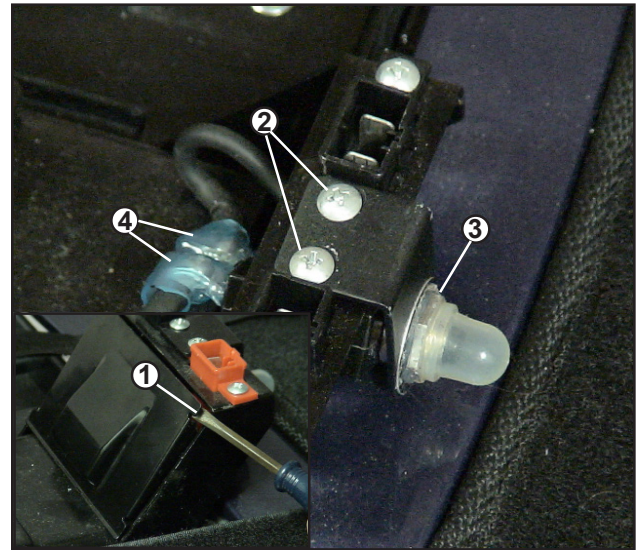

Figure 27. Circuit Breaker
6. Use a slotted screwdriver to pry off the circuit breaker cover. (See #1 on figure 27.)
8. Remove the two (2) screws that fasten the circuit breaker to the battery connectors. (See #2 on figure 27.)
9. Use a socket or an adjustable wrench to remove the nut that fastens the circuit breaker to the bracket (See #3 on figure 27.)
10. Use a Phillips screwdriver to disconnect the power harness from the circuit breaker (See #4 on figure 27.)